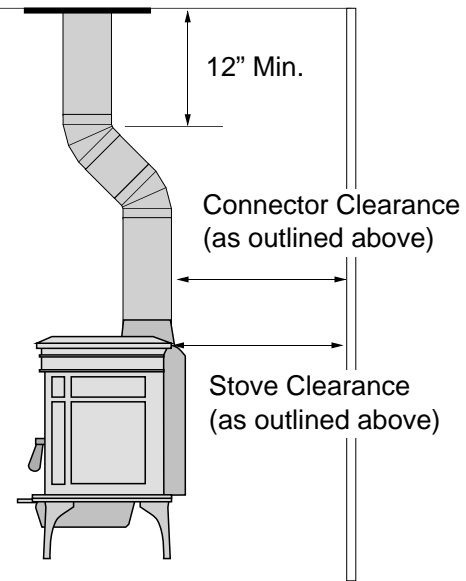

Figure 9
- If using offsets, use the connector clearance listed in Figure 9, **not the connector manufacturer's clearance.**
- Mobile Home (US) or Transportable Building (CAN) installations require a spark arrester at the chimney termination. Follow the chimney manufacturer's instructions for maintaining a proper moisture barrier at the external chimney penetration.
- The appliance must be grounded to the chassis of the Mobile Home (US) or Transportable Building (CAN) (consult your building official).
- **CAUTION: THE STRUCTURAL INTEGRITY OF THE MOBILE HOME (US) OR TRANSPORTABLE BUILDING (CAN) FLOOR, WALL, AND CEILING/ROOF MUST BE MAINTAINED.**